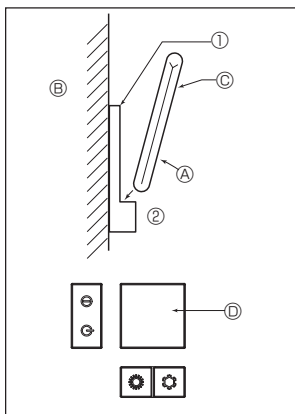
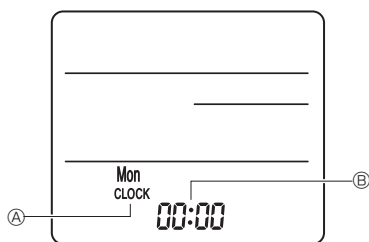

Fig. 7-7
Fig. 7-8
2) Installation method (Fig. 7-7)
- ① Attach the remote controller holder to the desired location using 2 tapping screws.
- ② Place the lower end of the controller into the holder.
④ Remote controller ⑤ Wall ⑥ Display panel ⑦ Receiver
3) Setting (Clock setting) (Fig. 7-8)